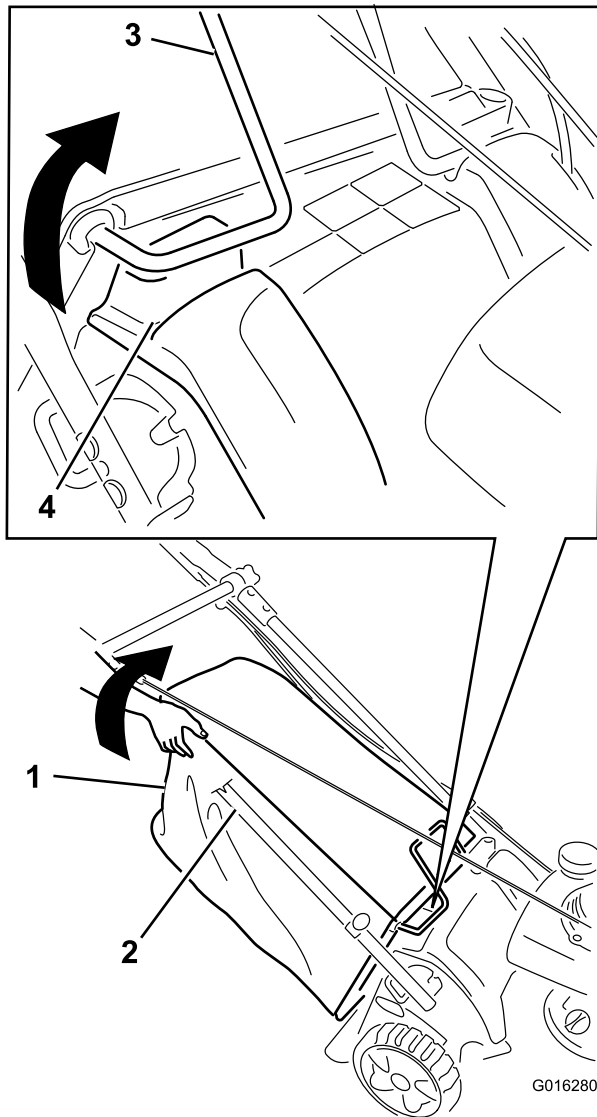

Figure 52
5. While the engine is running, lift up the upper right rear corner of the grass bag until the wire-bag frame at the upper right front of the grass bag is completely out of the right-hand slot (Figure 52). **The engine should stop.**